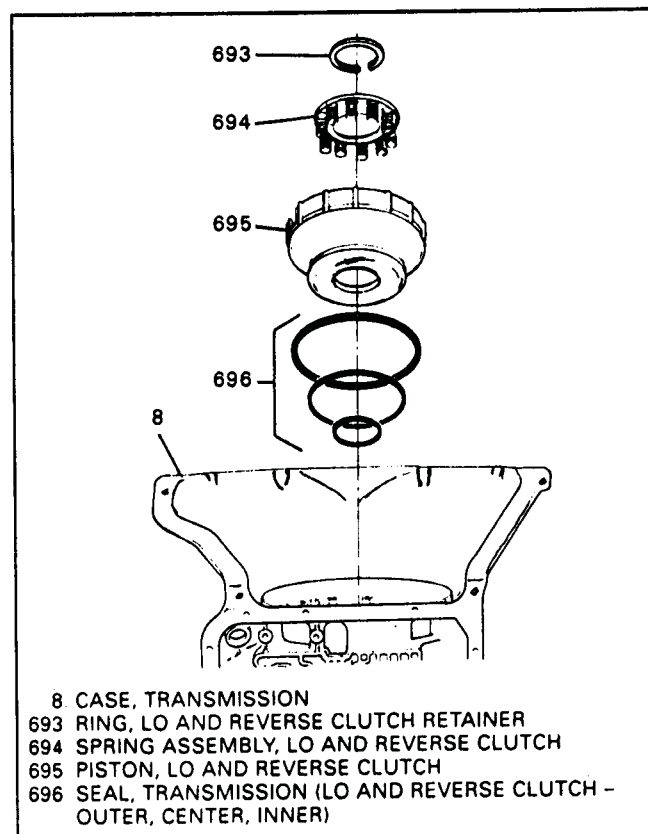

Figure 64
19. Install the Low/Reverse piston return spring assembly onto the piston as shown in Figure 64.